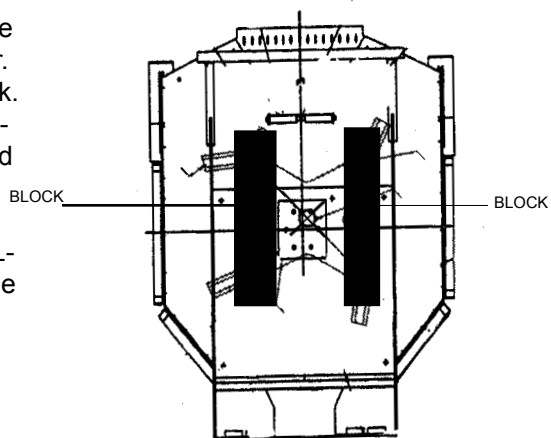

Figure 2
- d. Once the blade carrier is loose on the spindle shaft, remove the supporting strut and set the entire machine on the floor. Lift open the front door and lay it back on the machine deck. Place wood 4x4 or other material to block up the blade carrier as shown in Fig. 2. Reach in the front door opening and remove the castle nut. As you remove the castle nut, the blade carrier should lower and rest on the support blocks. Once the castle nut is removed start your loader, lift the DL-66 cutter and back up a few feet to gain access to the blade carrier, which is sitting on the support blocks.